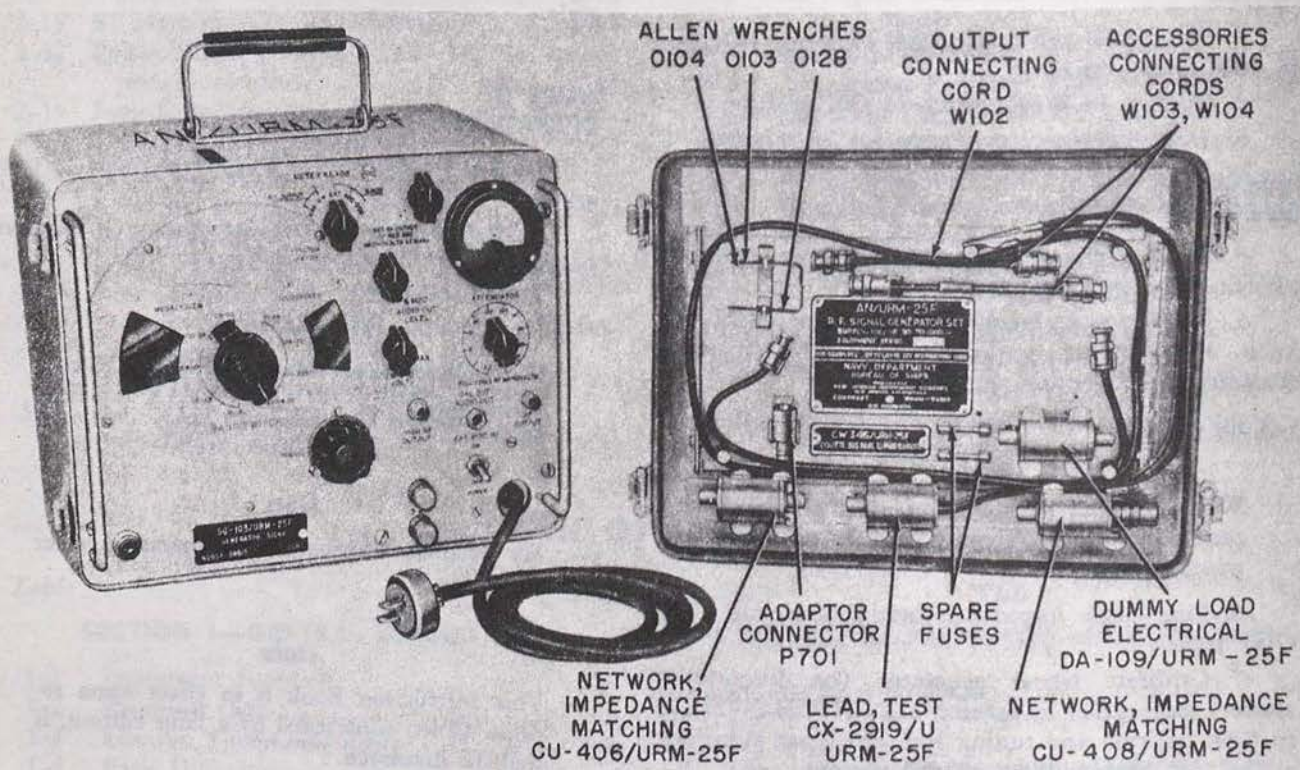

Figure 1-1. RF Signal Generator Set AN/URM-25F Complete Equipment with Accessories
b. All units, including the power supply, are incorporated in a single portable cabinet (see figure 1-1). The units supplied and their weights are listed in Table 1-1.
- (1) Generator, Signal.....SG-103/URM-25F
- (2) Power SupplyPP-1322/URM-25F
- (3) Cover, Signal Generator CW-346/URM-25F
- (4) Network, Impedance Matching